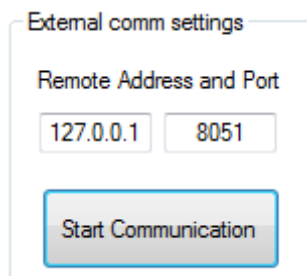

Figure 5: External Communication Settings.
- a. In the “External comm settings” group-box enter the (IP address, Port) at which you would like to send commands from your external code. As shown in **Figure 5**, the default IP and listening UDP port are set to 127.0.0.1 and 8051; it is advisable/convenient to directly use these settings.